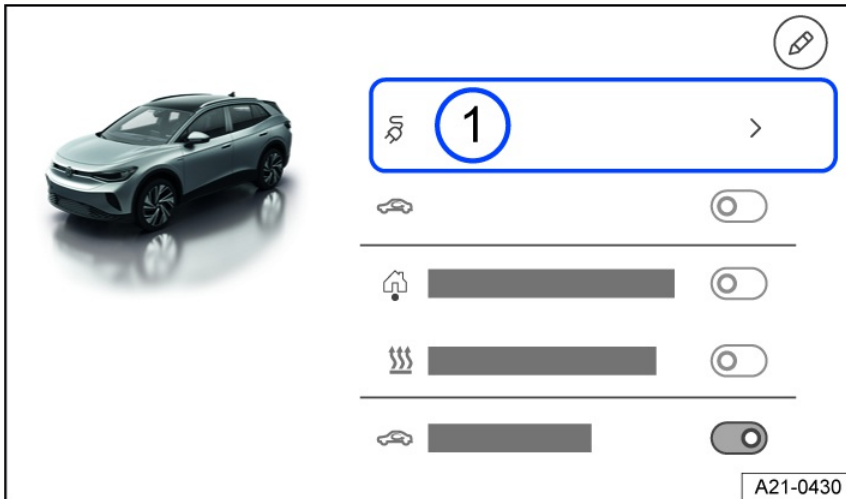

Fig. 135 Infotainment system: exit menu with function key for charging (general example).
1. Tap the function key with the displayed charging procedure *fig. 135* ①.